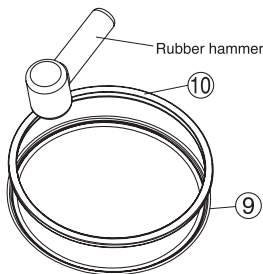

Figure 12 Assemble seat & backing ring
- 2 With one side of the new metal seat (9) facing the backing ring (10), use a rubber hammer or attach them by hand (see Figure 12).
- 3 Apply a thin film of molybdenum disulphide or PTFE to the seat (9).
- 4 Place the seat (9) and backing ring (10) into the body (1) slowly.
- 5 Assemble the retaining ring (11), adjust ring (12), locking ring (13) in that order.
- 6 Turn the adjust screw (14) in accordance with the torque of page 6.
- 7 Close the disc (6), then turn the adjust screw (14) according to the indicated torque value on page 6.
- 8 Attach the wire (26) to the adjust screw (14).
- 9 For butt weld type, combine the gasket (28) and port cover (30) using the screw & nut (3).
- 10 After several cycles, ensure that the seat (9) and the middle of the disc (6) are still aligned.